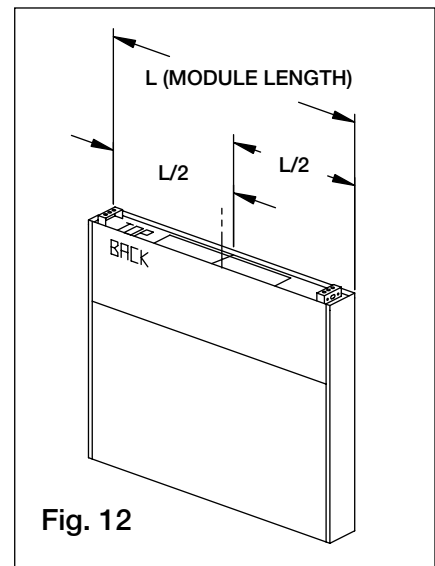

Fig. 12
2. If the back supply plenum is less than 9 ft. 10 in. (299.72 cm) long, cut opening at the suggested location, centering the opening over the center of the back supply plenum. (Fig. 12)